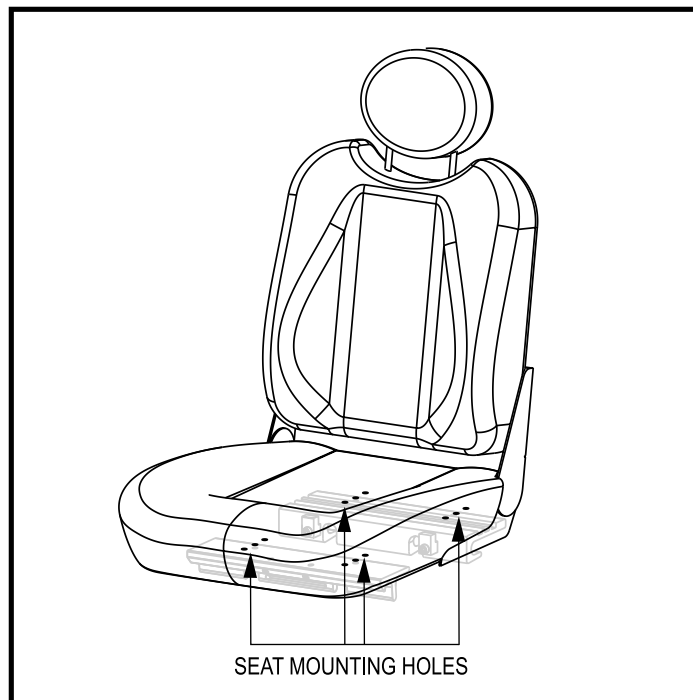

Figure 13. Seat Position Adjustment
5. Reposition the extrusions on a different set of mounting holes. You must move both extrusions the same number of holes either forward or backwards. See figure 13.